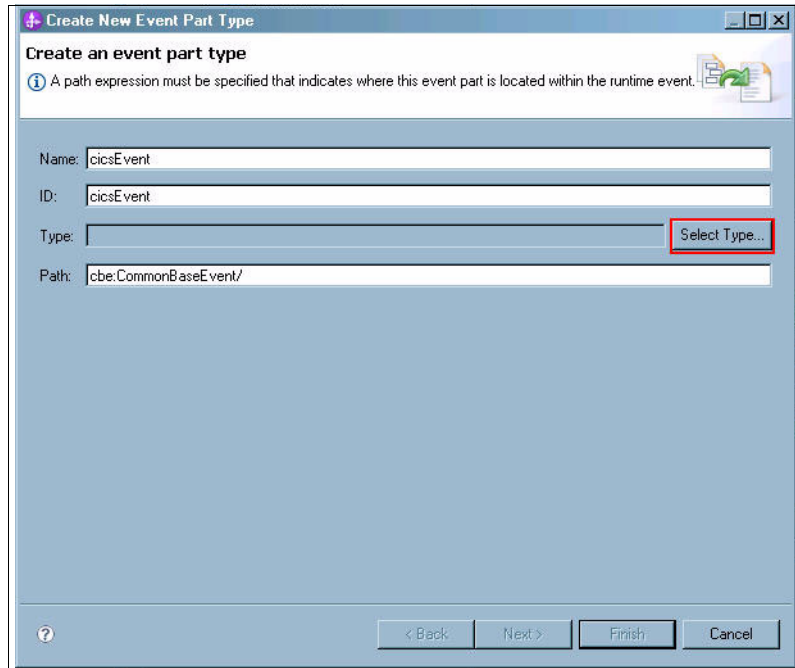

Figure 8-34 Event name
6. Give the event part a name (we chose cics:Event). See Figure 8-34 on page 245.